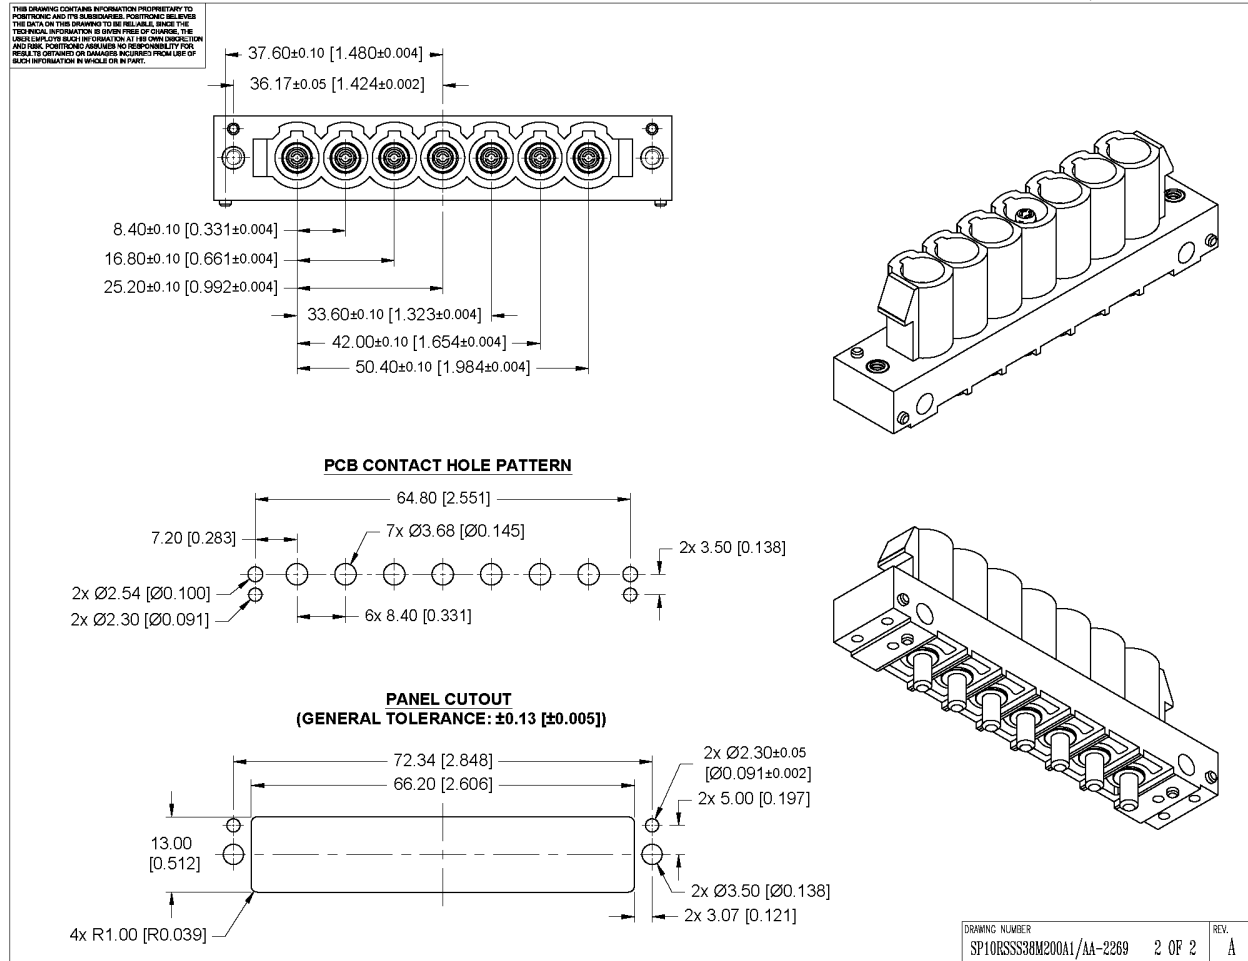

Figure 5.11 SP10RSS38M200A1/AA-2269
- For Right connector, refer to Figure 5.11 (SP10RSSS38M200A1/AA-2269)